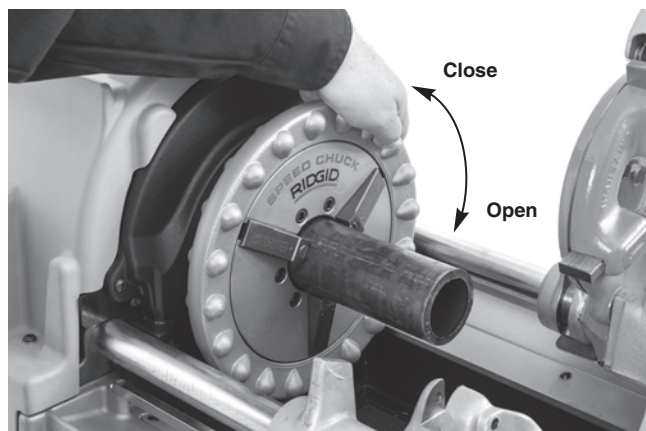

Figure 16 – Chucking Pipe
Fully open the chucks of the threading machine. For Manual Chuck machines, turn the front chuck handwheel clockwise (see Figure 16). For Auto Chuck machines, move the REV/OFF/FOR (2/0/1) Switch to the REV (2) position, depress and release the foot switch.
Turn the front chuck handwheel counterclockwise (viewed from front of machine Figure 16) to close